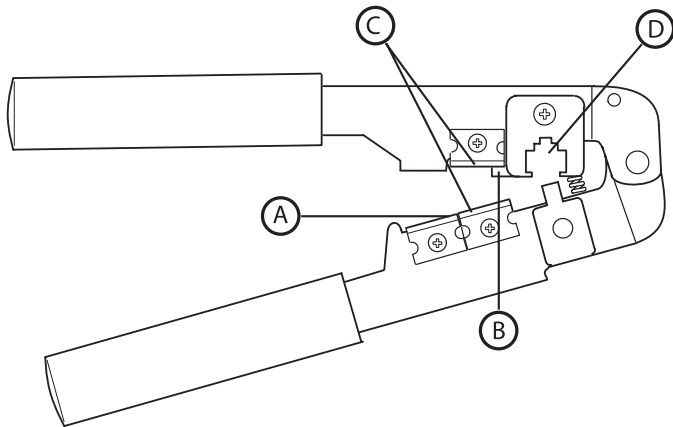

Figure 1
1. Using the cutter blade on the crimping tool (labeled A, in figure 1), cut the CA cable so the cut is clean and at a 90-degree angle to the side of the cable.
2. Fully insert one end of the CA cable between the stripping blades (labeled C, in figure 1) until the end of the cable hits the stop (labeled B, in figure 1).
6. Push a RJ connector into the plug holder on the crimping tool (labeled D, in figure 1) until the release tab on the plug locks into position.